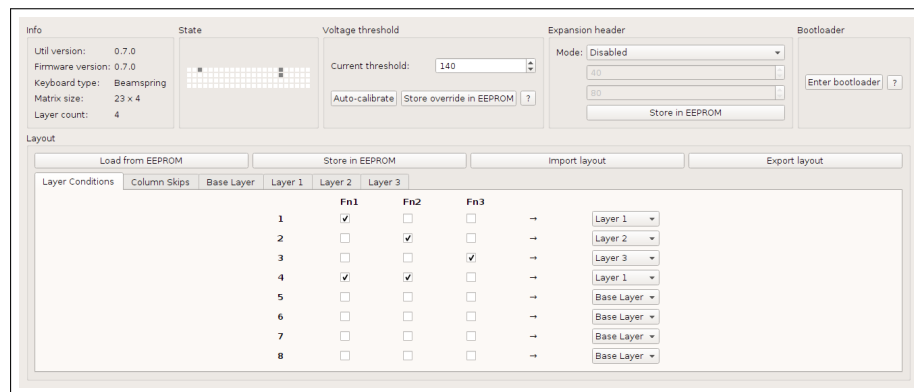

Figure 7: 3727 keyboard with sense threshold correctly set
At some point, you will notice some keys will appear as pressed that don’t correspond to physical keys. There are usually no more than 3 or 4 of these. These will come into play later on with auto-calibration. Figure 7 shows a keyboard with these calibration nodes registering.
- You must set up a “condition” on the “Layer Conditions” tab; this allows setting up combinations of more than one Fn key—one example is shown in Figure 7 on page 9